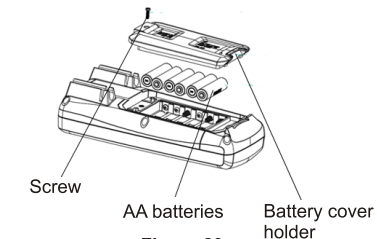

Figure 29
2. Install or replace the battery (Figure 29)